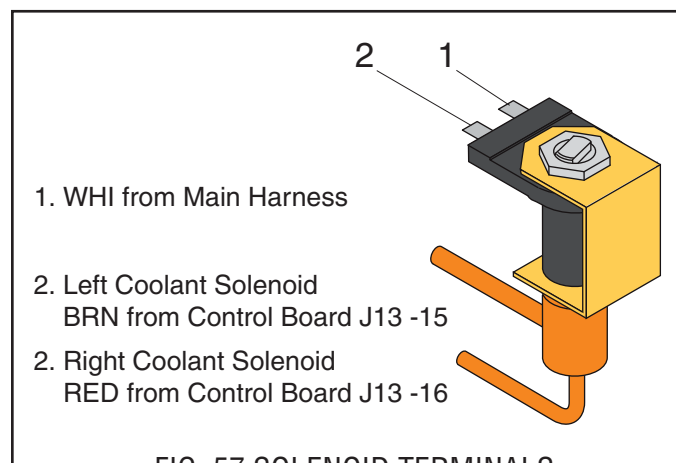

FIG. 57 SOLENOID TERMINALS
10. Refer to Fig. 57 and reconnect the wires.